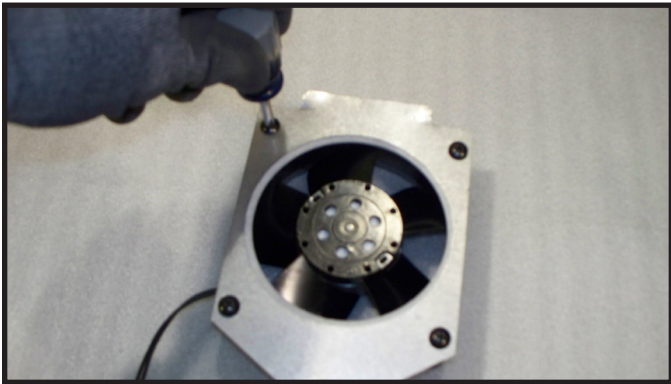
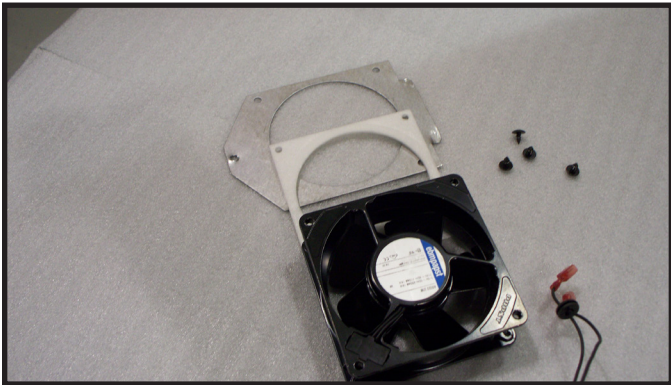

Figure 12.11 Remove Mounting Plate
Figure 12.12 Remove Mounting Plate
- Remove mounting plate from blower by removing the four screws that hold the blower to the plate. Save the gasket for use with the new blower. See Figure 12.11 and Figure 12.12.